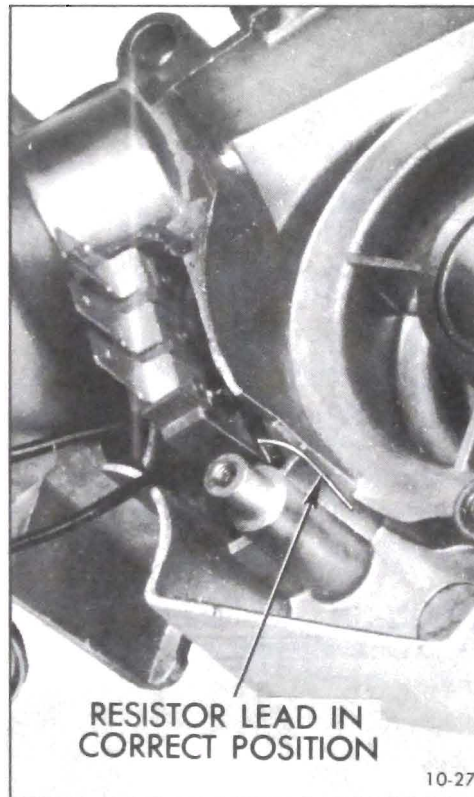

Figure 10-52 Installing Terminal Board
2. Slide terminal board into wiper housing being careful to position the terminal board resistor lead. See Figure 10-52.